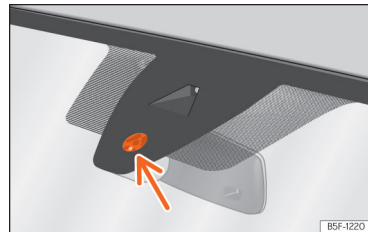

Fig. 110 Sensitive surface of the rain sensor.
»» **Fig. 110** of the rain sensor are, among others:
- **Dirt:** dry dust, wax, coating on glass (Lotus effect) or traces of detergent (car wash) may reduce the effectiveness of the rain sensor or make it react more slowly, later or not at all. Regularly clean the sensitive surface of the rain sensor »» **Fig. 110** (arrow) and check for possible damage to the wiper blades.